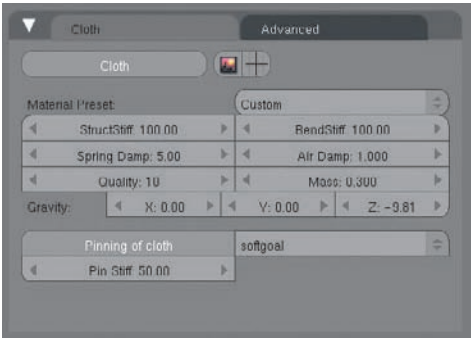
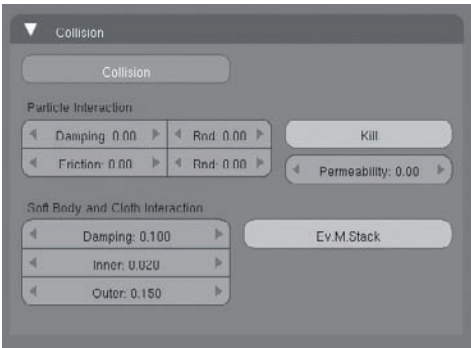

Figure 3.66
Figure 3.67
6. With the shirt selected, activate the soft body simulation by clicking the Cloth button on the Cloth tab. Set the Cloth values as shown in Figure 3.66 to make sure that the cloth has the right degree of stretchiness. Click the Pinning Of Cloth button and select Softgoal as the vertex group for pinning. Next, select the body Mesh object of Mancandy. Activate Collision in the Collision tab, and set the values under Soft Body/Cloth as shown in Figure 3.67.